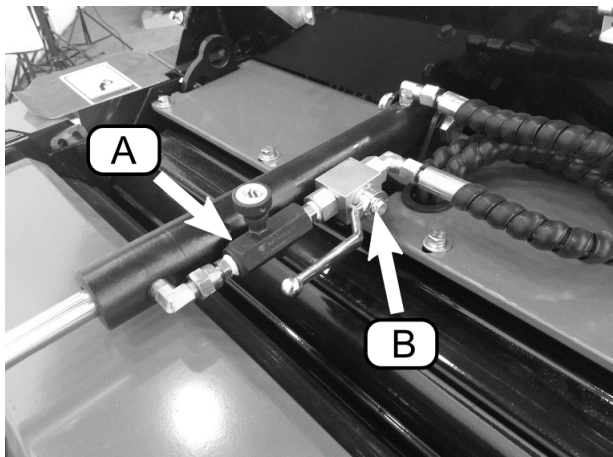

Figure 32 Top rear of baler
- The opening and closing action of the tailgate can be slowed down or sped up to suit your preference by adjusting the position of the flow control valve (Figure 32, A).
- Hydraulic flow can be stopped for maintenance or other purposes by turning the stop valve (B) upward so that it is perpendicular to the cylinder.